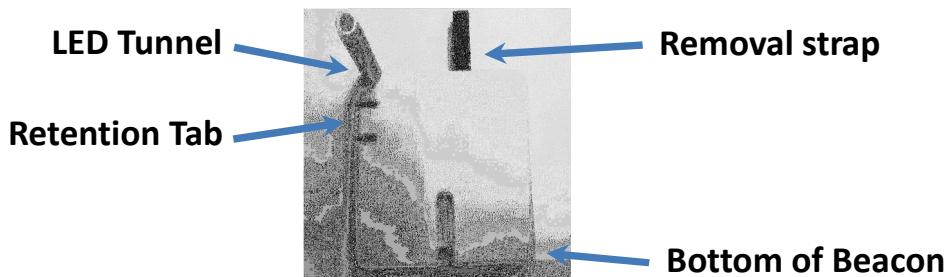
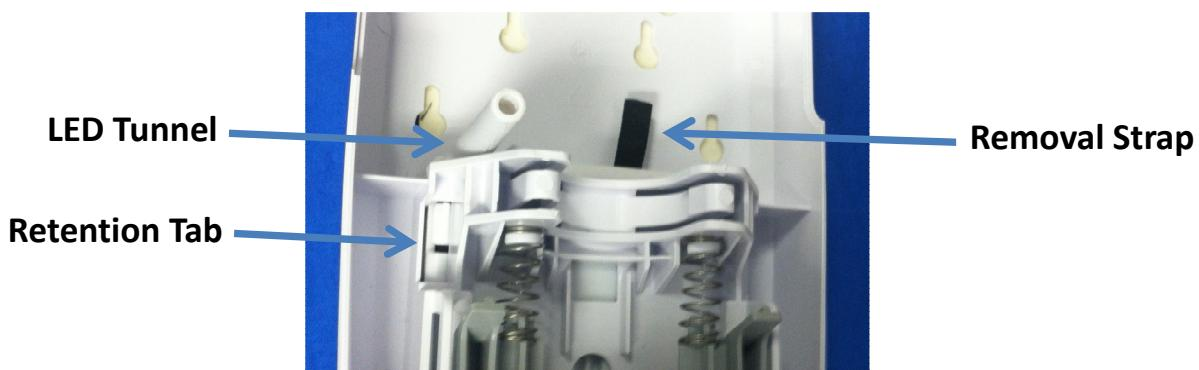

Figure 3. Front view, showing LED Tunnel, Retention tab, and Removal strap
Figure 5. Beacon Installed in Dispenser
- (1) Open the dispenser by depressing the top latch button.
- (2) Remove product bottle (if any) from the dispenser and set aside.
- (3) Align the bottom of the beacon with the opening in the back of the dispenser (see Figures 3 and 4).
- (4) Gently slide the beacon into the compartment at the back of the dispenser, until a soft click is heard, indicating that the module is installed in the compartment.
- (5) Replace the product bottle within the dispenser.
- (6) Close the dispenser.
- (2) Remove product bottle (if any) from the dispenser and set aside
- (3) With one hand, gently depress the retention tab (see figure 5) to release the beacon and allow it to be removed.
- (4) With the other hand, gently pull on the removal strap at the top of the MDB to lift the MDB out of the compartment at the back of the dispenser.
3. With one hand, gently depress the retention tab (see figure 5) to release the beacon and allow it to be removed.
6. Once the battery compartment door has been removed, install two (2) AA alkaline batteries, aligning the positive (+) and negative (-) terminals of the batteries with the corresponding signs displayed within the battery compartment (Ecolab recommends that only Duracell® Coppertop batteries be used to power the module.)
8. To replace the MDB in the Nexa Manual Dispenser, align the bottom of the beacon with the opening in the back of the dispenser (see Figures 3 and 4).